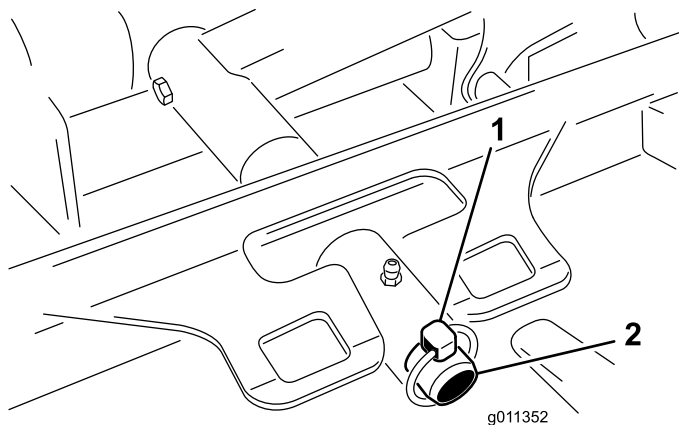

Figure 70
2. Remove the lynch pin (or retaining nut—model 30874) securing the deck carrier frame to the lift-arm-pivot pin (Figure 70).
2. Slide the deck carrier frame onto the lift-arm-pivot pin (Figure 70). Secure the deck to the pin with the lynch pin (or retaining nut—model 30874).